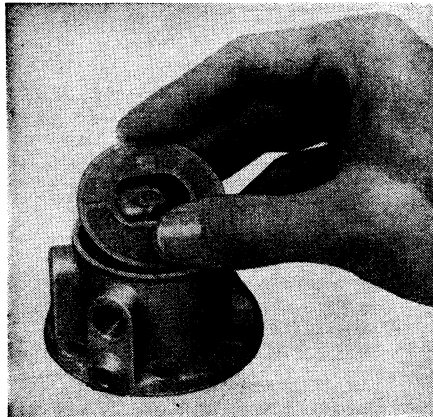

Fig. 28 Series R. Install screen with two metal projections facing you
11. Replace bowl cover gasket on edge of body casting. Place screen, Fig. 28, over gasket in such a way that rim of screen lies close against it. The two small metal projections near the center of the screen should be on your side of the screen.